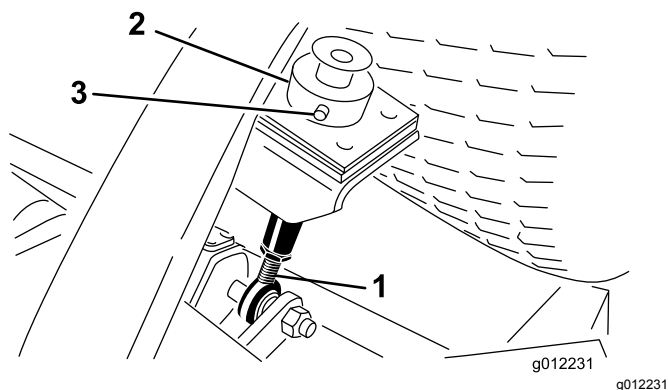
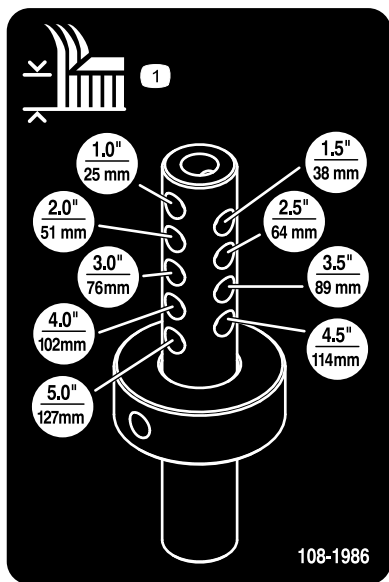

Figure 8
Figure 9
5. Remove the hairpin cotter and clevis pin securing the height of cut collar to the height of cut rod on the rear of the cutting unit (Figure 8).
6. Align the height-of-cut collar to the desired height-of-cut holes on the height of cut rod (Figure 8 and Figure 9).